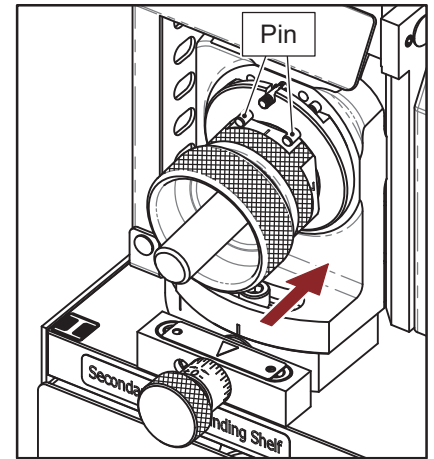

Fig. 15-1
1. 4 Flute Secondary Relief Grinding (I) (Fig. 15-1)